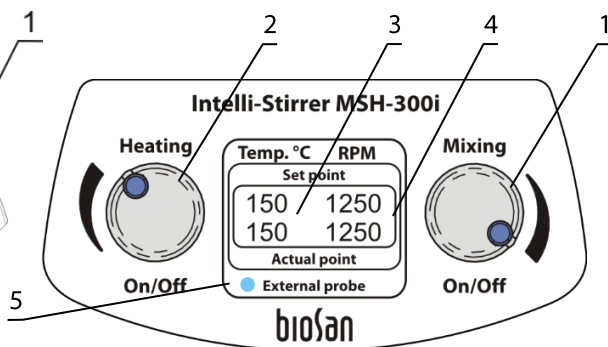

Figure 2. Control panel
- On the upper line **Set point**: temperature mode indication (OFF) or previously set temperature (fig.2/3) of a heating surface or liquid (if external probe is activated) and set speed of magnetic stirring element (fig.2/4);
- 4.5. Plate temperature control. Using the **Heating** knob (Fig. 2/2) switch the heating **On** and set the required temperature (in the 30 to 330°C range).
The external probe indicator lamp will light up on the control panel (fig.2/5), showing that the temperature control is now performed via the external probe.
Using the Heating knob (Fig. 2/2) switch the heating On and set the required liquid temperature (in the 20°C to 150°C range).
Caution! The indicator lamp (Fig. 2/5) flashing shows that the external probe is not dipped into the liquid and the plate temperature has reached its maximum of 340°C. This can cause an emergency situation, so dip the external probe in-to liquid or switch off the unit.
- 4.6.3. Using the **Mixing** knob (Fig. 2/1) switch the mixing mode **On** and set the required speed (in the 100 to 1250 rpm range).